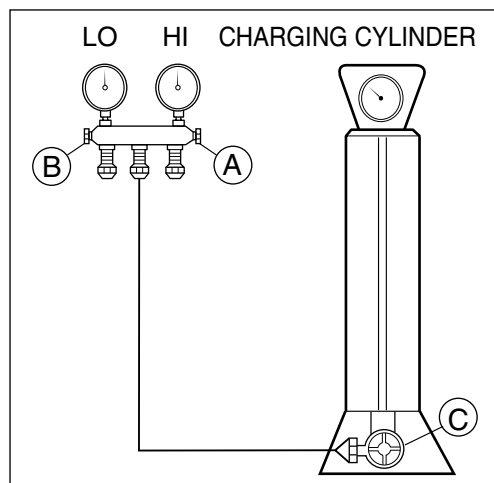

Figure 20B-Charging
- 6-4. Remove the hose from the vacuum pump and place it on the charging cylinder. See figure 20B. Open valve C. Discharge the line at the manifold connection.
- 7-2. Connect the charging cylinder as shown in figure 20B. With valve C open, discharge the hose at the manifold connection.